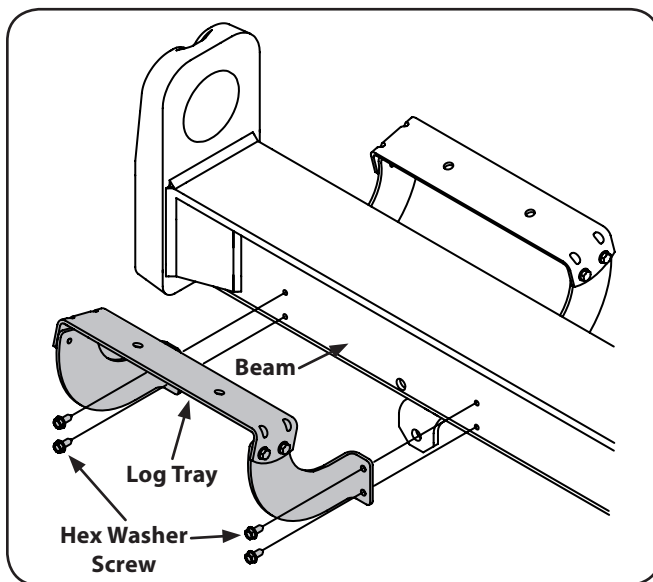

Figure 3-7
- Reattach the log tray to the side of the beam with the control valve, aligning the holes in the tray with the holes in the beam. See Figure 3-7.